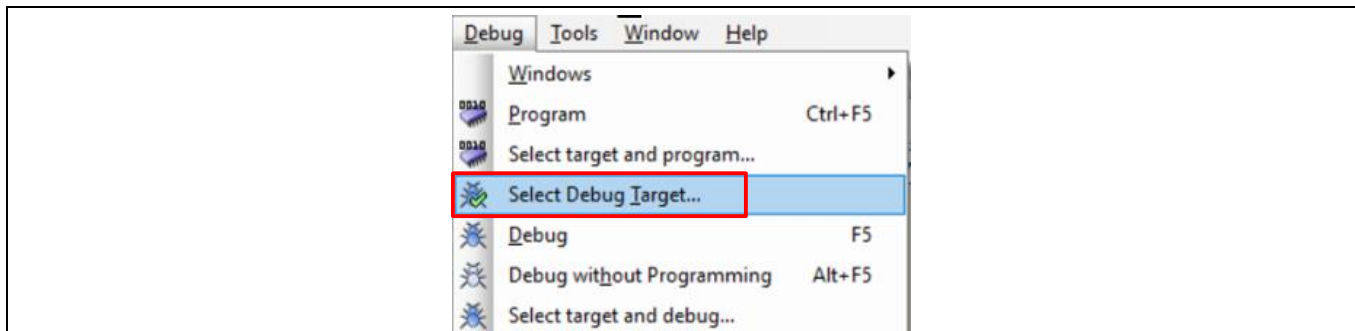

Figure 48 Selecting debug target
1. Select the PSoC™ Creator menu item **Debug > Select Debug Target**, as shown in Figure 48.